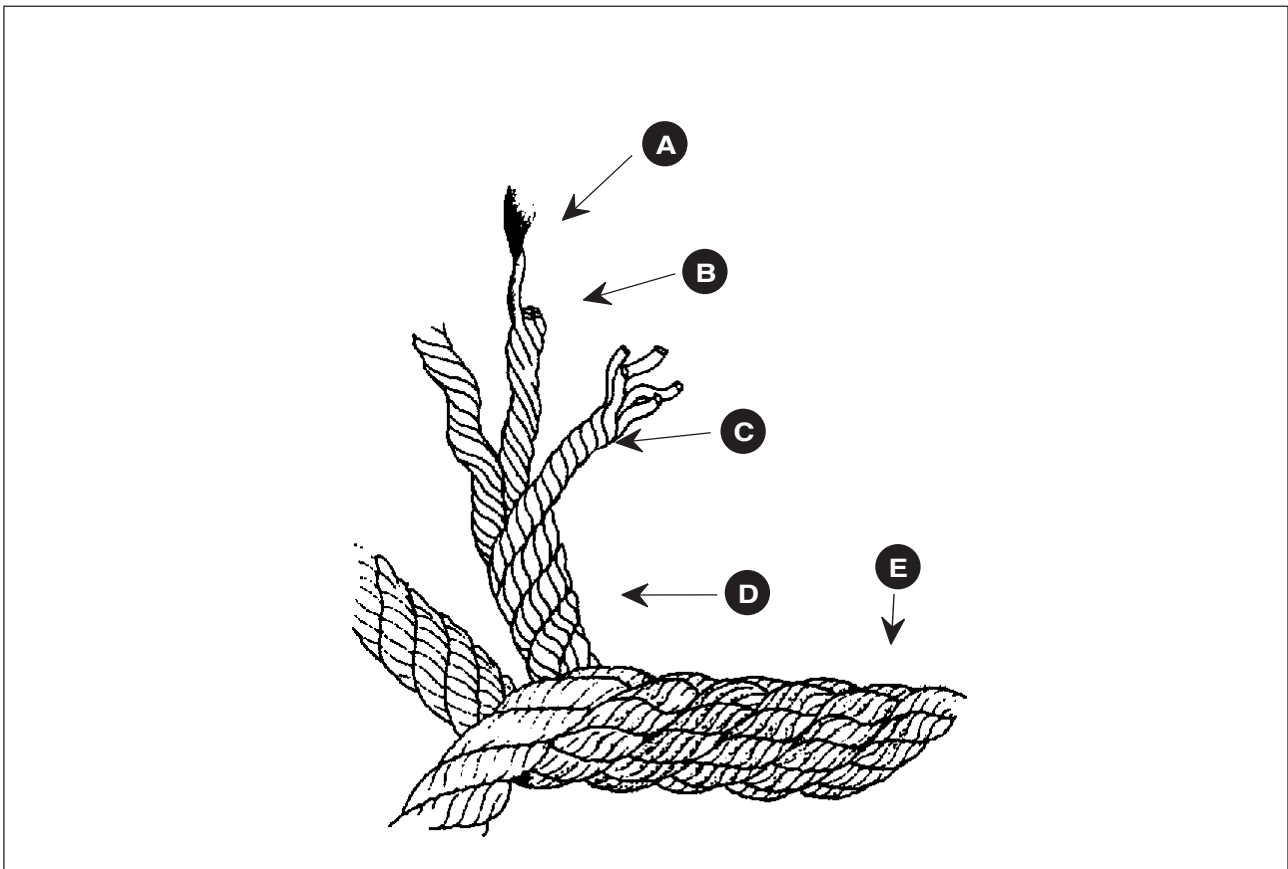

Figure 11.2 Diagrams for questions on page 16
- a. Is the rope shown in Figure 11.2, laid, staple or braided?
3. In Figure 11.2, what are the names of the parts labelled a – e?